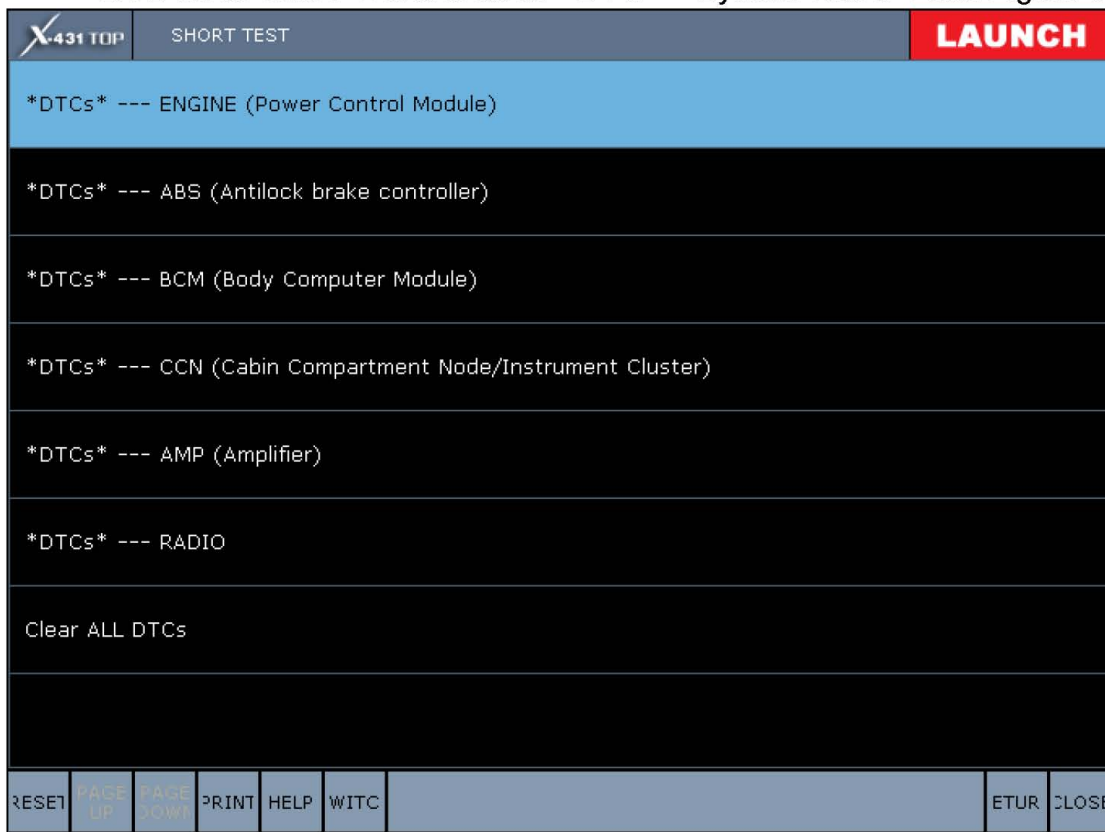

Figure 5
- A). After clicking this menu, it scans DTCs and lists the system which has DTC when finish. The format is: "*DTC*--- System Name". See Figure 5.